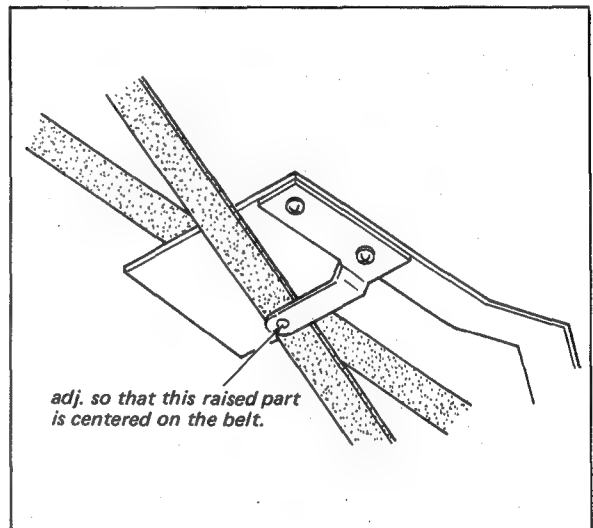

Fig. 4-34. Belt separator adjustment
1. The belt separator should be situated so that in its free-standing position it fits naturally between the belt surfaces at the crossover point. See Fig. 4-34.